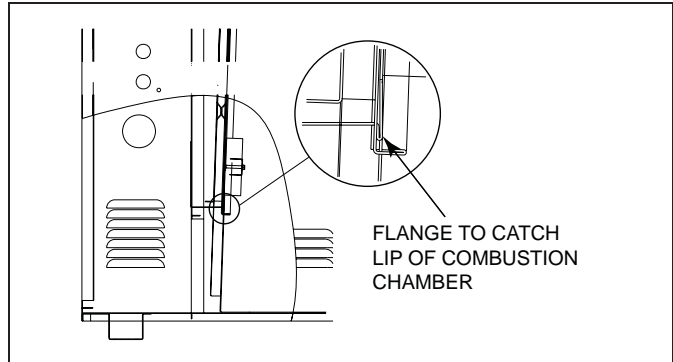

Figure 3. Location of the Cover Bracket
3. Ensure that the flange on the cover bracket catches the bottom lip of the combustion chamber panel opening. See Figure 3.